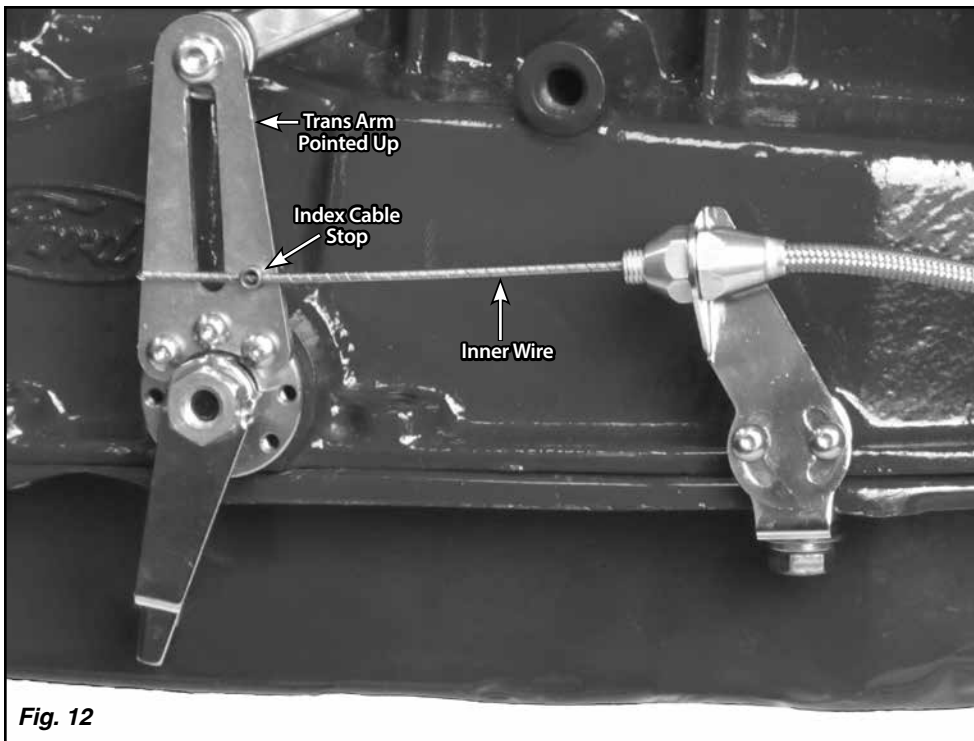
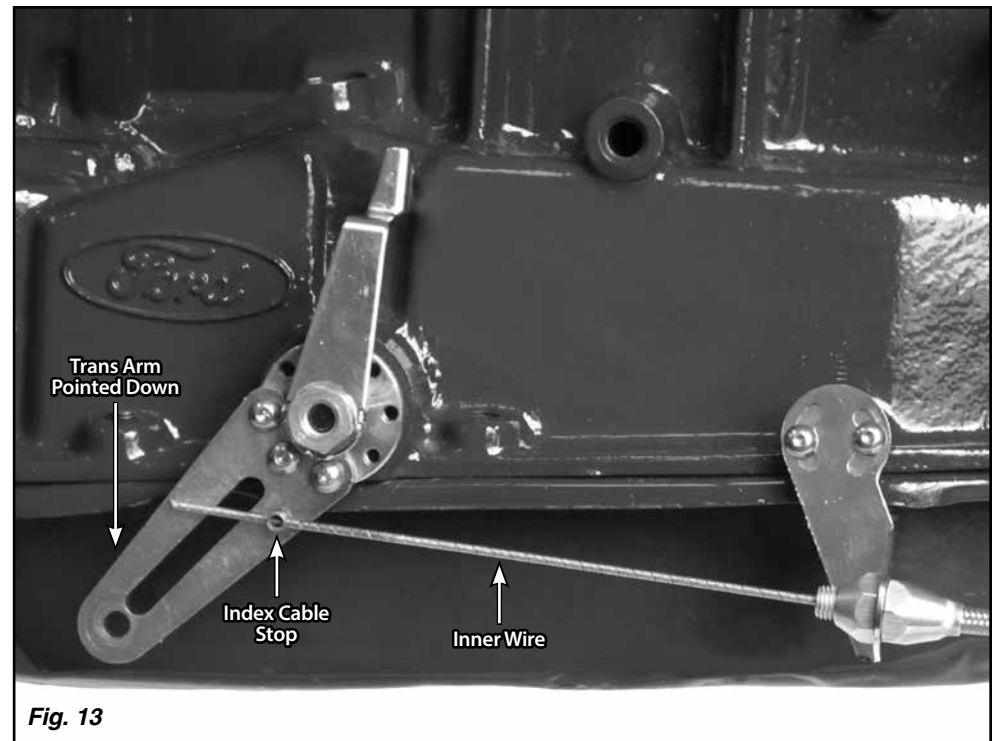

Fig. 12
Fig. 13
Step 12: At the opposite end of the cable, install the index cable stop into the trans arm or the AOD indicator arm. Slide the inner wire through the hole in the index cable stop so that approximately 1" is protruding. You should now have excess inner wire at the opposite end of the cable (at the sensor). Tighten the set screw in the index cable stop at the trans arm or AOD indicator arm using a 1/16" Allen wrench. Adjust the angle of the adjustable cable mounting bracket so that the inner wire will not bind or kink as it goes through the gear selections. **Fig. 12 and Fig. 13**